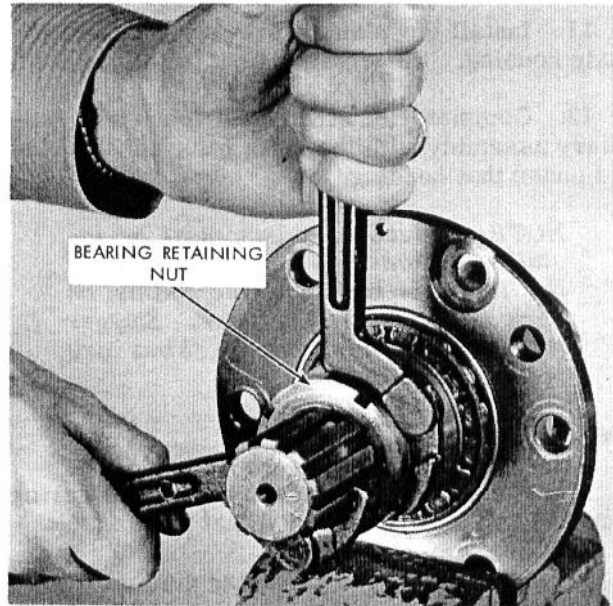

Fig. 54 - Loosening Bearing Retaining Nut
2. Loosen the bearing retaining nut, as shown in Fig. 54.